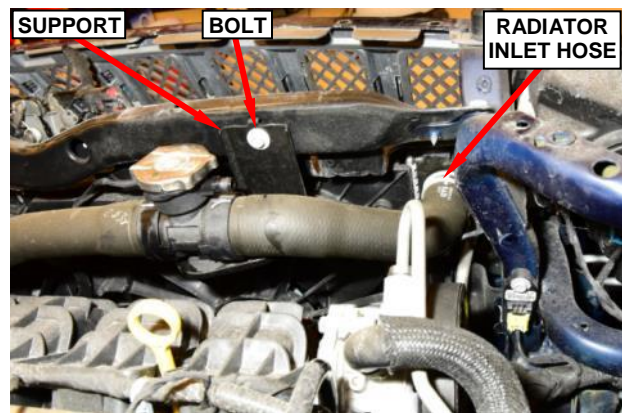

Figure 17 – Radiator Inlet Hose
50. Remove and save the bolt from the radiator inlet hose support (Figure 17).
51. Disconnect the radiator inlet hose from the radiator and save the hose (Figure 17).